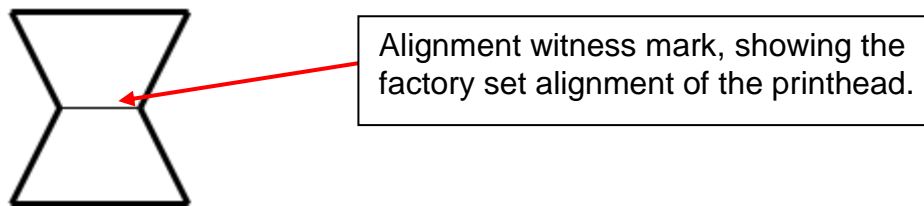

Figure 5 – Factory Default
- 3.3. When aligning the printhead ensure **both** sides of the printhead start from the factory default position with the alignment witness mark in the centre of the inspection window as shown in Figure 5.